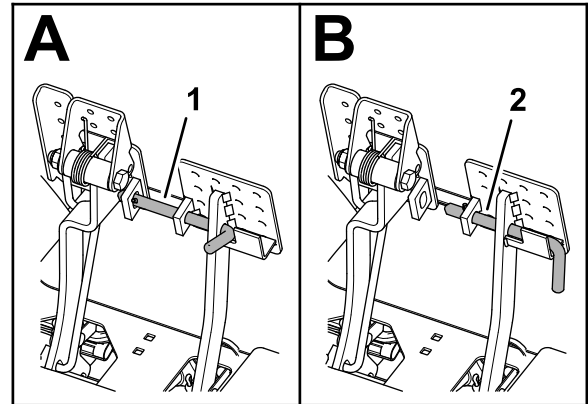

**Figure 158**
8. Assemble the screen onto the hinge pins (Figure 158).